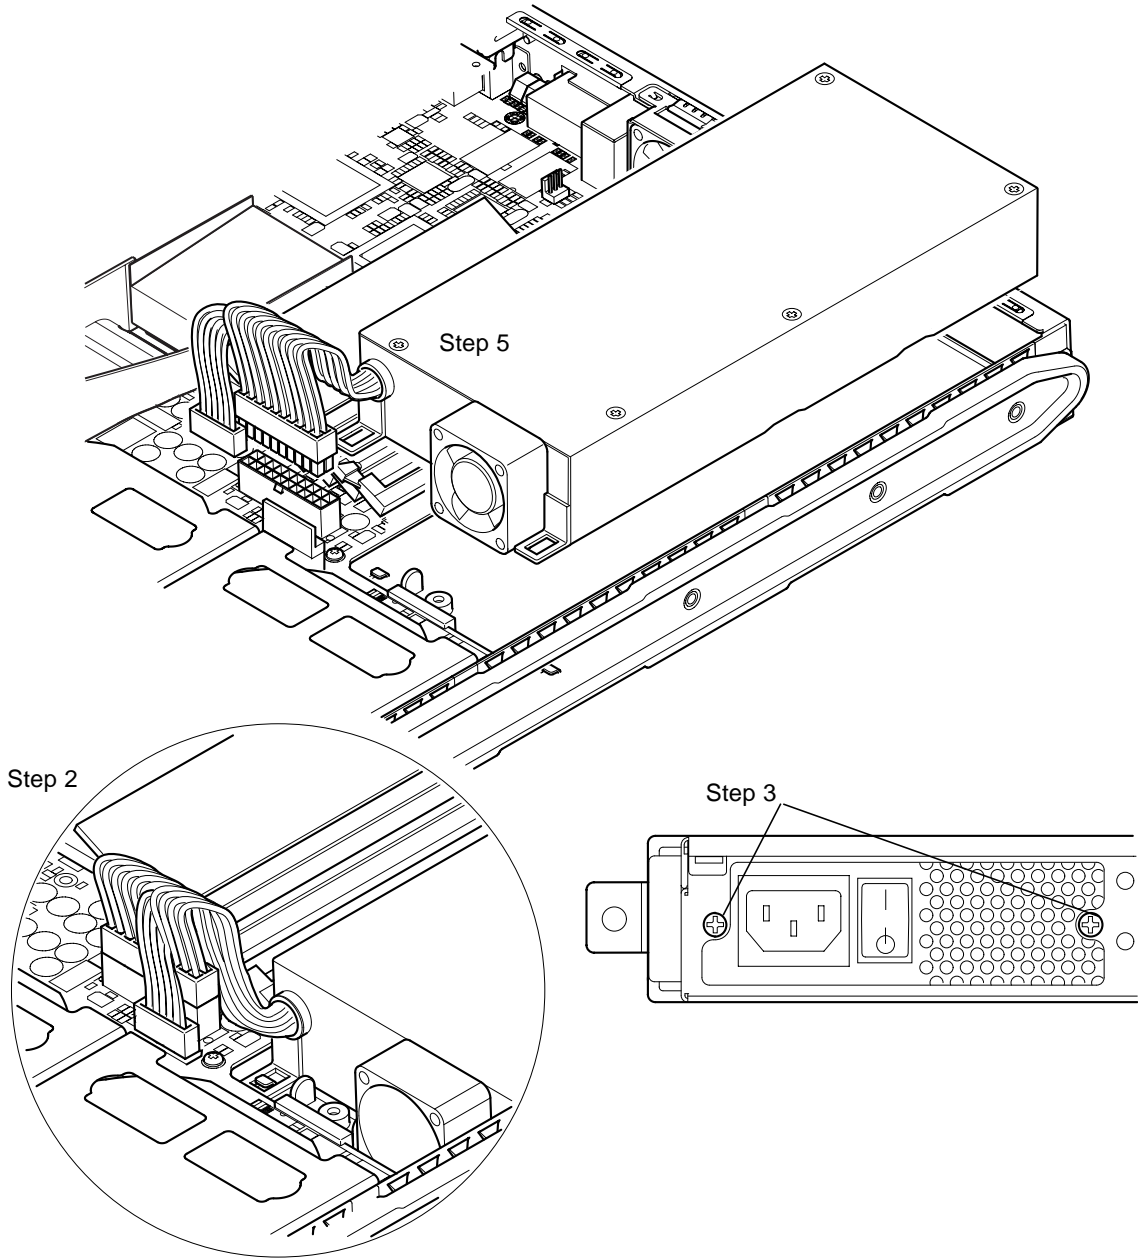

FIGURE 11-9 Replacing the Power Supply Unit
- 3. Undo the two rear fixing screws (see FIGURE 11-9).**
- 5. Lift the new PSU over the location tabs and slide it backwards into place (see FIGURE 11-9).**